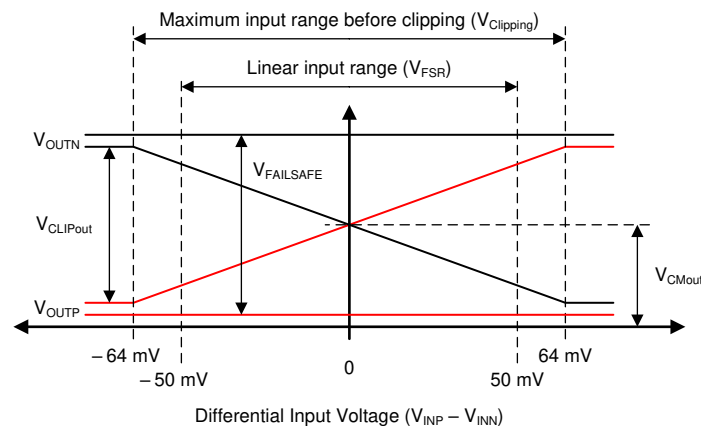

Figure 7-2. Output Behavior of the AMC3302
The AMC3302 offers a differential analog output comprised of the OUTP and OUTN pins. For differential input voltages ($V_{INP} - V_{INN}$) in the range from -50 mV to 50 mV , the device provides a linear response with a nominal gain of 41. For example, for a differential input voltage of 50 mV , the differential output voltage ($V_{OUTP} - V_{OUTN}$) is 2.05 V . At zero input (INP shorted to INN), both pins output the same common-mode output voltage V_{CMout} , as specified in the Electrical Characteristics table. For absolute differential input voltages greater than 50 mV but less than 64 mV , the differential output voltage continues to increase in magnitude but with reduced linearity performance. The outputs saturate at a differential output voltage of $V_{CLIPout}$, as shown in Figure 7-2, if the differential input voltage exceeds the $V_{Clipping}$ value.
The AMC3302 provides a failsafe output that simplifies diagnostics on system level. Figure 7-2 shows the failsafe mode, in which the AMC3302 outputs a negative differential output voltage that does not occur under normal operating conditions. The failsafe output is active in two cases:
- The low-side does not receive data from the high-side (for example, because of a loss of power on the high side). In this case, the amplifier outputs are driven to the V_{FAILSAFE} value, see Figure 7-2.
- The high-side DC/DC output voltage (DCDC_OUT) or the high-side LDO output voltage (HLDO_OUT) drop below their respective undervoltage detection thresholds (brown-out). In this case, the low-side may still receive data from the high-side but the data may not be valid. The amplifier outputs are driven to V_{FAILSAFE} value, see Figure 7-2.